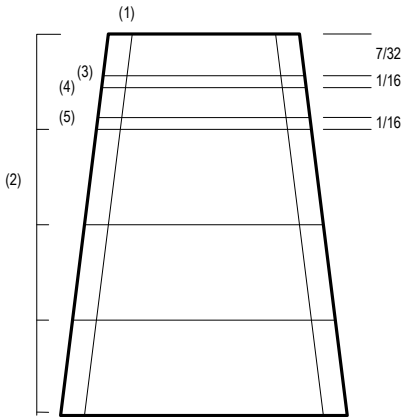

Figure 29 - Drawing stiffeners by marking pairs.
When drawing the stiffeners by hand, it may be better to draw the stiffeners as pairs rather than measuring each strip separately. The steps are shown in Figure 29. First draw the outer lines and setback (1). Next mark horizontal lines at the distance of each stiffener pair (2). Next measure the distance of the first stiffener and draw a horizontal line (3). Measure the gap and draw the next line at (4). Finally measure the gap back from the end of the pair and draw the line at (5). Using this method insures that each pair is the correct length and you are less likely to accumulate small errors along the length of the bellows.